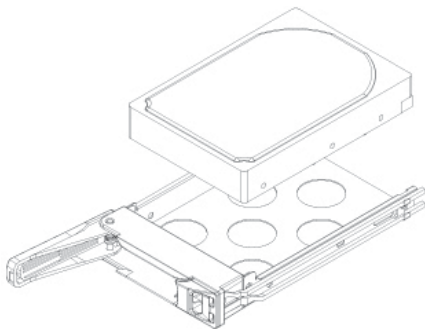

Fig. 2
2. Place the HDD into the HDD mounting frame (fig. 2).